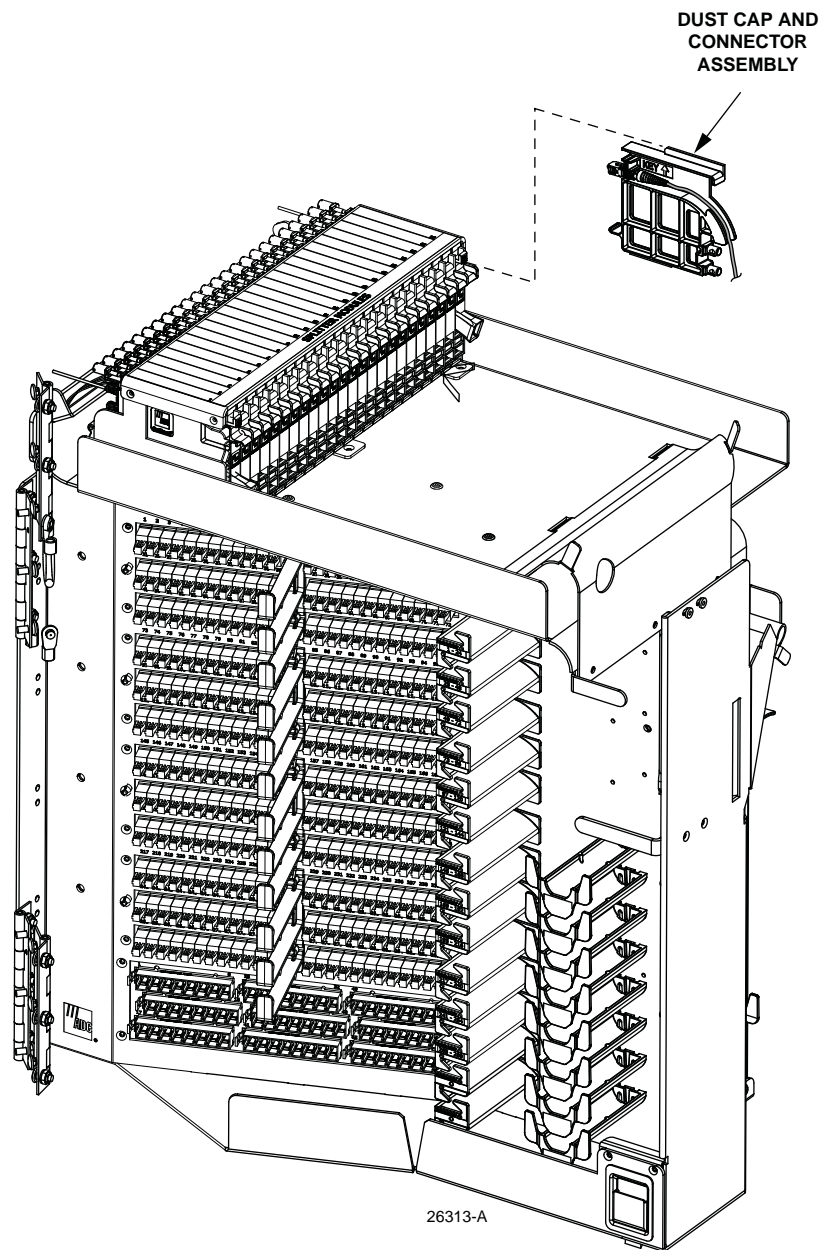

Figure 34. Inserting Dust Cap Assembly Into Splitter Compartment
9. Connect the patch cord connector(s) to the feeder cable connector(s) by inserting the dust cap assembly into the splitter slot as shown in Figure 34.